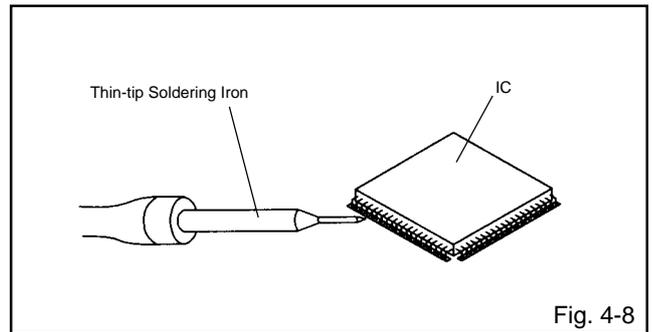

Fig. 4-8
4. When bridge-soldering between terminals and/or the soldering amount are not enough, resolder using a Thin-tip Soldering Iron. **(Refer to Fig. 4-8.)**